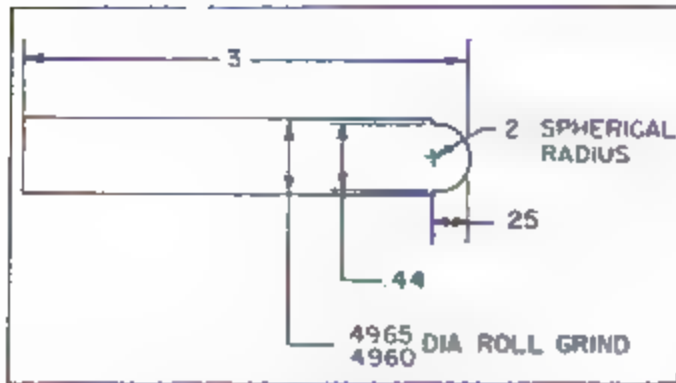

Figure 8-3. Low Pressure Relief Valve Blocking Pin
- c. Remove oil pressure relief valve cap, gaskets, lock nut, screw and bushing assembly, inner and outer springs and piston from low pressure relief valve (14, figure 1-2). Install blocking pin (fabricated locally to the dimensions and shape shown in figure 8-3, to block off relief passage; then install outer spring and screw and bushing assembly. Turn screw and bushing assembly into mount bracket until it seats on blocking pin. Install gasket and lock nut and tighten lock nut. (If relief valve cap is installed, be sure to tighten it less than lock nut to prevent loosening the nut when cap is removed.)